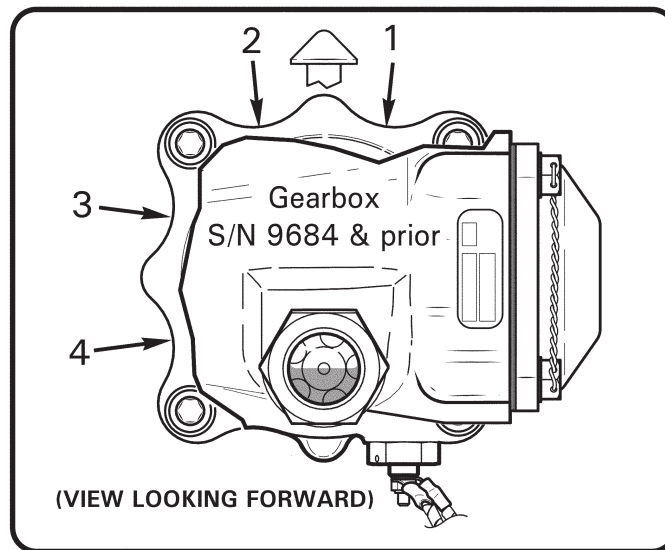

FIGURE 2-8A TRGB INPUT CARTRIDGE INSPECTION
**Gearbox:** Inspect general condition. Look for leakage. Check oil quantity and cleanliness through sight gage and adjust or flush as required. Check gearbox-to-tailcone mounting security. Inspect output shaft for nicks, scratches and corrosion. Check safety wire on applicable gearbox bolts. Check Telatemp. Gearbox S/Ns 9684 & prior: using 10X magnification, visually inspect four curved surfaces on input cartridge per Figure 2-8A; if cracking is detected, remove gearbox from service and perform C148 Bulkhead Inspection per § 2.595. \_\_\_\_\_